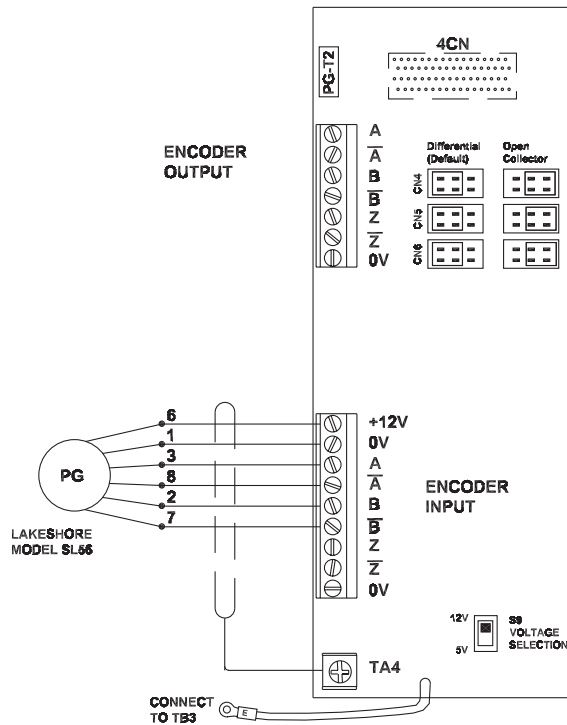

Figure 3-9: PG-T2 Encoder Card Wiring
2. Connect the encoder to the PG-T2 Encoder Interface Card. Refer to Figure 3-9: “PG-T2 Encoder Card Wiring” on page 3-15.